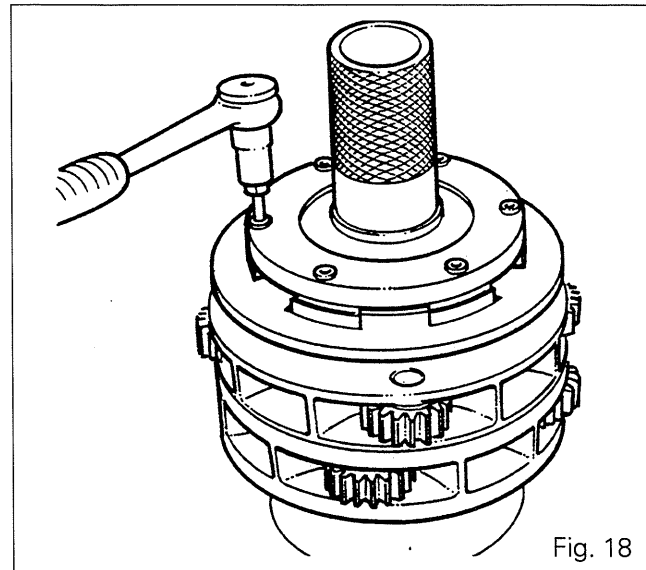
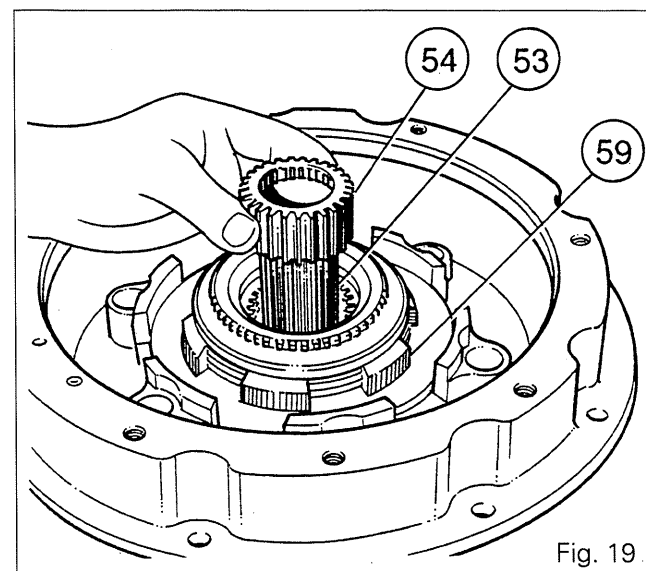

Fig. 18
Fig. 19
48. Centre the clutch housing assembly (59) using tool 3376887 M1 (Fig. 18). Coat the bolts (46) with Loctite 241 and torque them to 13 - 15 Nm. Remove the tool. Separate the housing assembly from the planetary carriers.
49. Coat the thrust washer (51) with miscible grease and place it on the cover (47).
50. Fit a disc (41) in the brake housing /42\.
51. Fit the clutch housing (59) and washer (51) assembly on the shaft (53). Fit the hub (54), with its internal splines pointing upwards (Fig. 19).
52. Fit the two other brake discs (41), separated by the pressure plate (44).